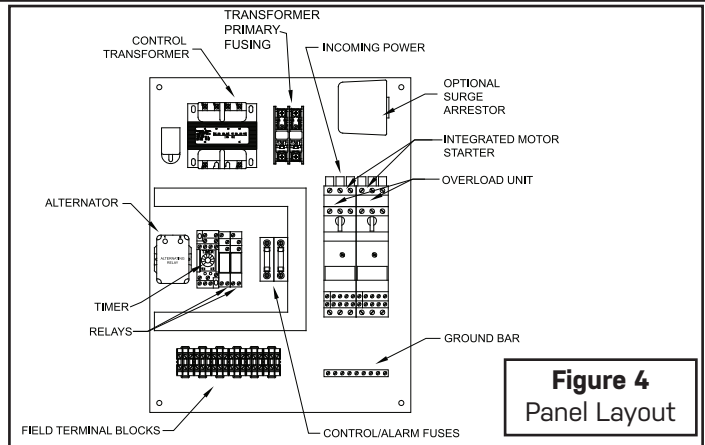

Figure 4
- b) Turn motor starter switch to the ON position. See Figure 4 - Panel Layout.